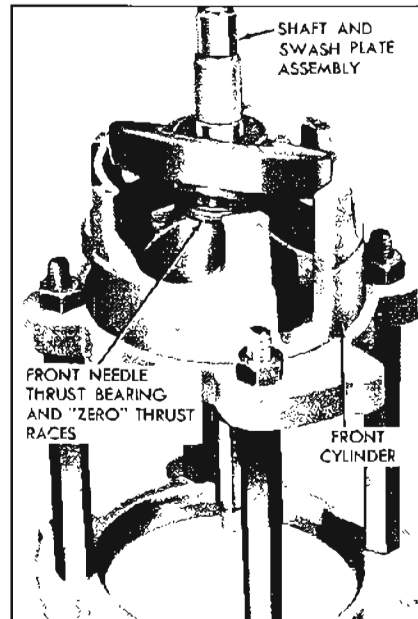

Figure 11-82—Shaft and Front Needle Thrust Bearing in Cylinder Half
20. Place front cylinder on top of Compressing Fixture (J-9397) as shown in Figure 11-82.
21. Generously coat with clean petroleum jelly two "zero" thrust races, and a new needle thrust bearing. Assemble races and bearing to front end of shaft and swash plate assembly and insert assembly into front cylinder (see Figure 11-82).
31. Remove cylinder assembly from inside Compressing Fixture (J-9397), place on top of compressing fixture (see Figure 11-82) and disassemble rear cylinder from front cylinder using rubber mallet and wood block.